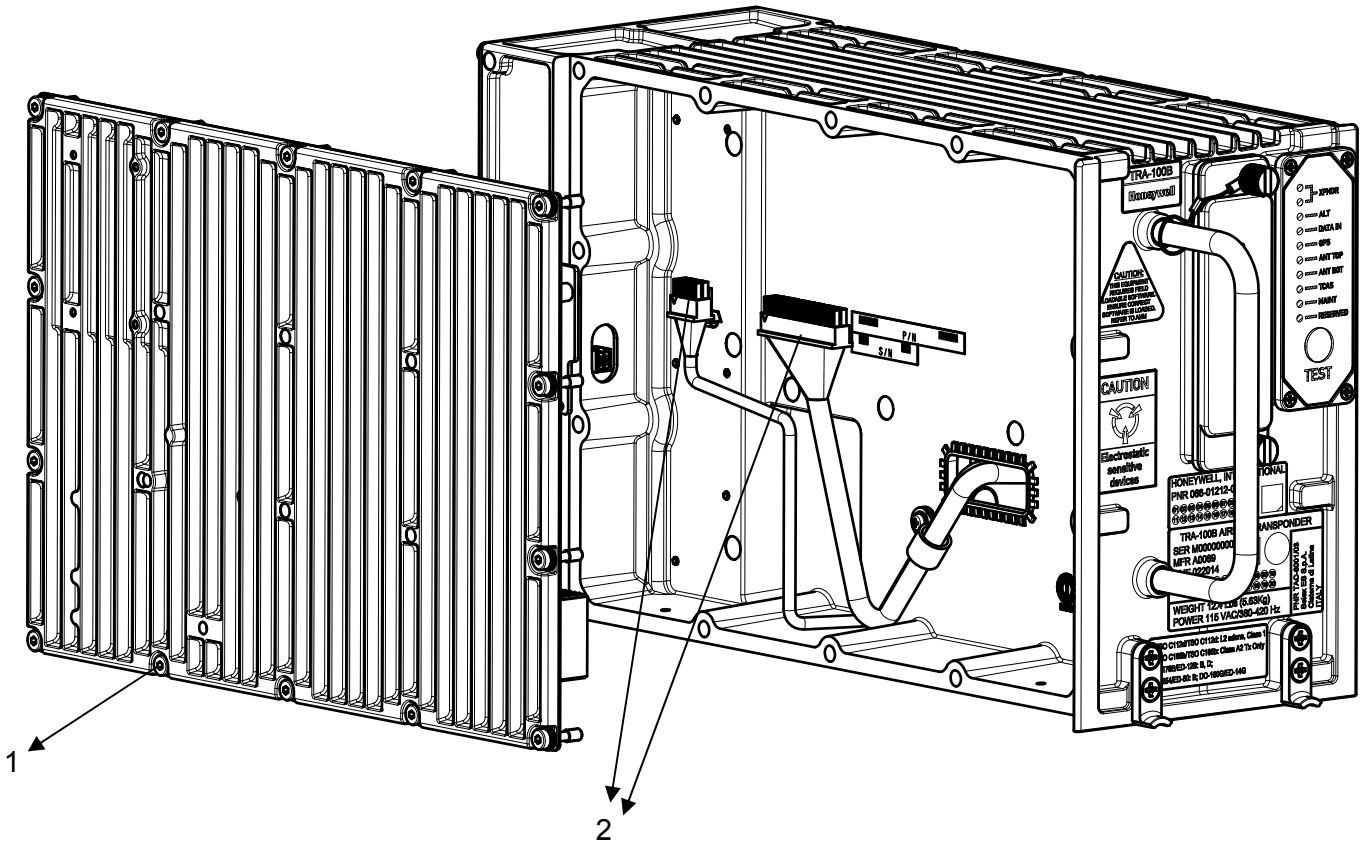
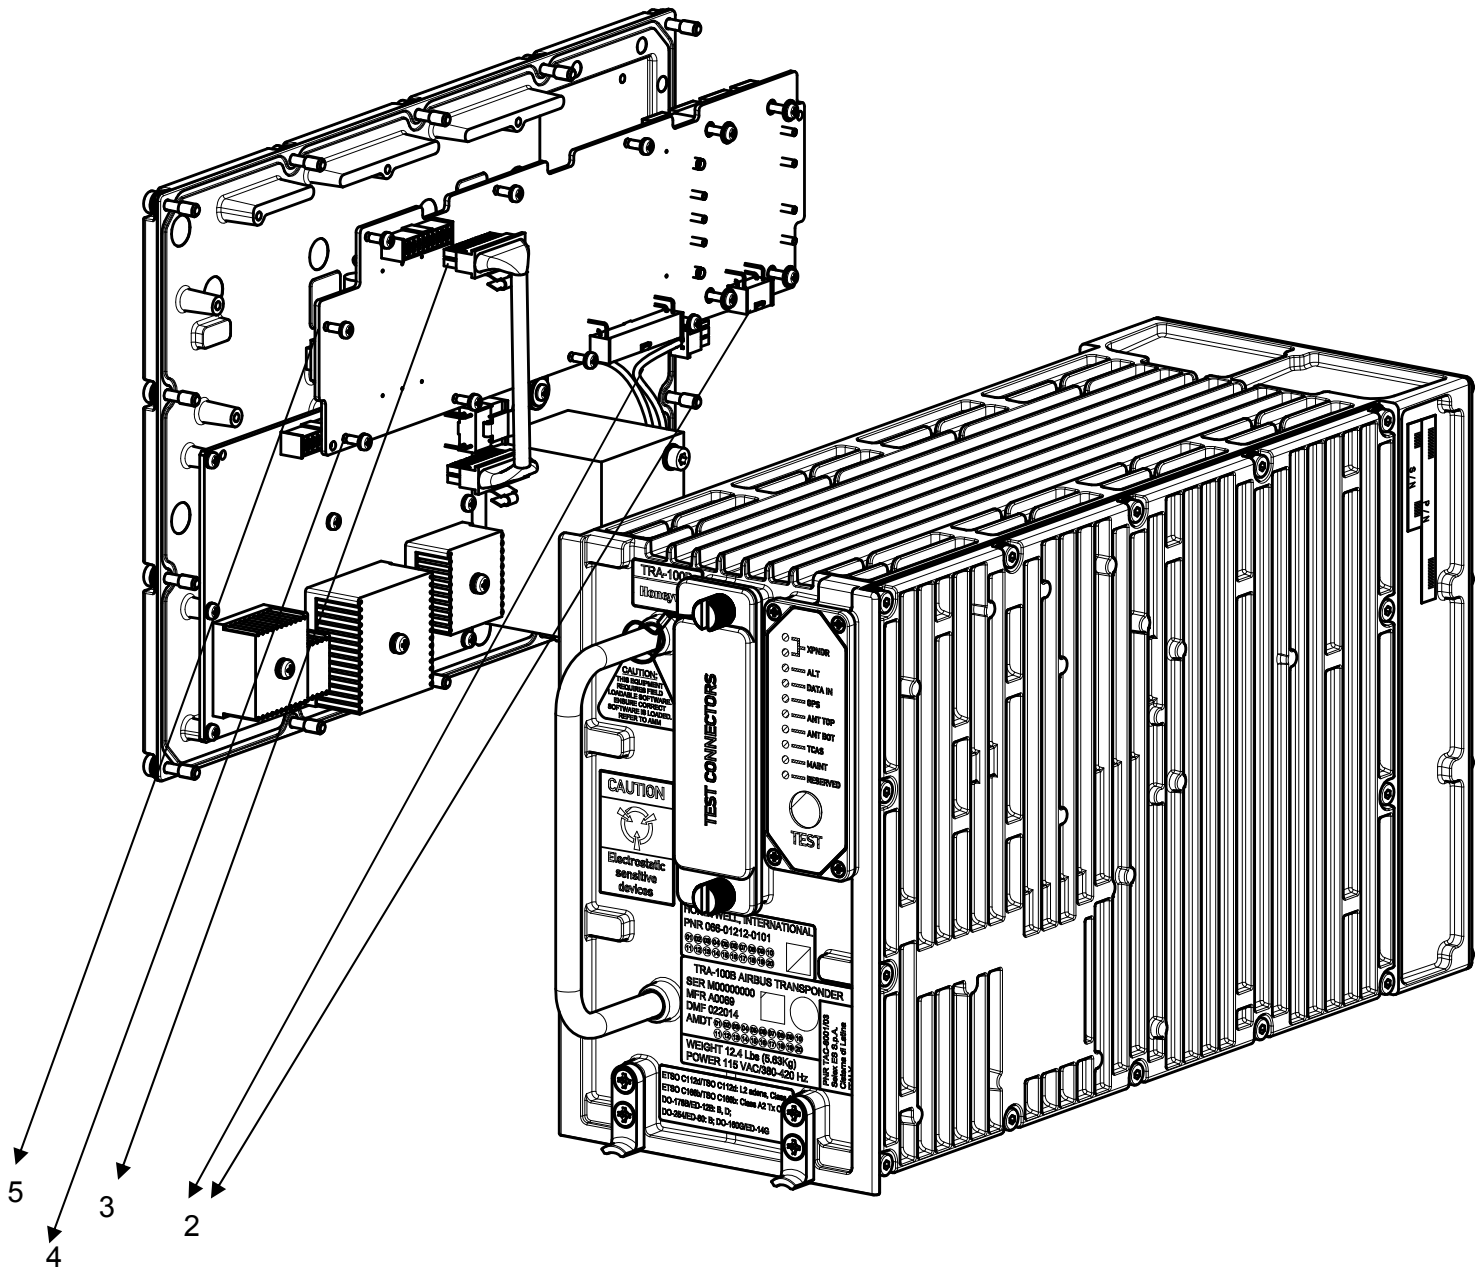

Figure 8-6 – TRA-100B, DC Power Supply (DCPS) – Replace procedure
Figure 8-7 – TRA-100B, ACPS and DCPS – Replace procedure (position)
- 1.1. Removal Transponder cover (left side) unscrewing the relative M2,5 fourteen crosshead screws using a torque screwdriver bit holder and related bit (1). (Figure 8-6, Figure 8-7)
- 2.1) Insert the DC Power Supply module. (Figure 8-6, Figure 8-7)